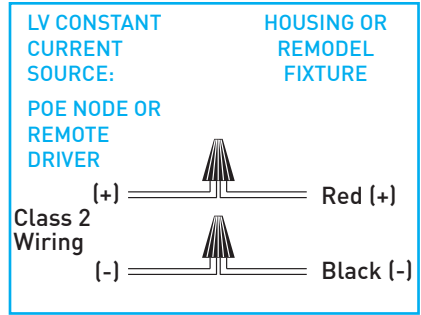

Fig. 21
Splice compartment / power supply assembly provides two (2) wires for connection to low voltage: Red (+) and Black (-)(Fig. 21).